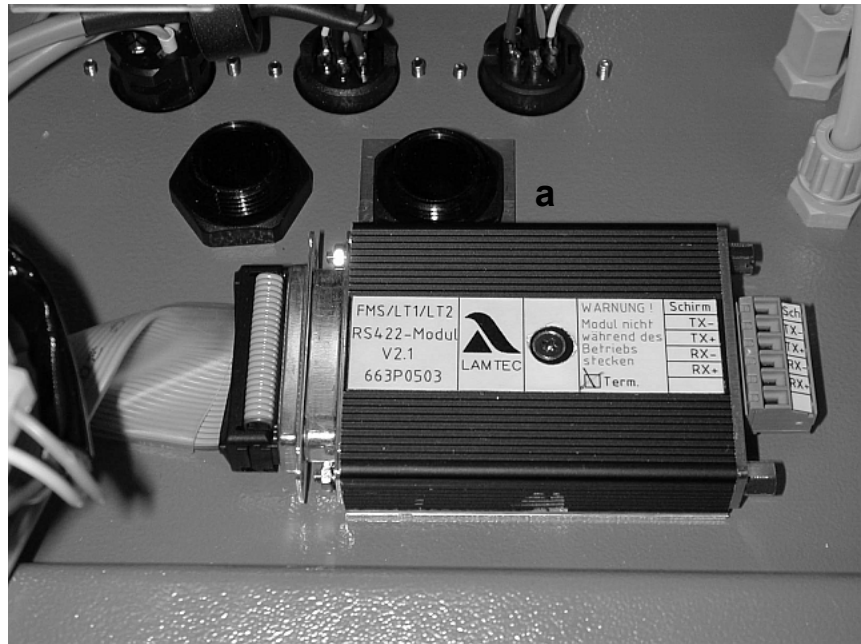
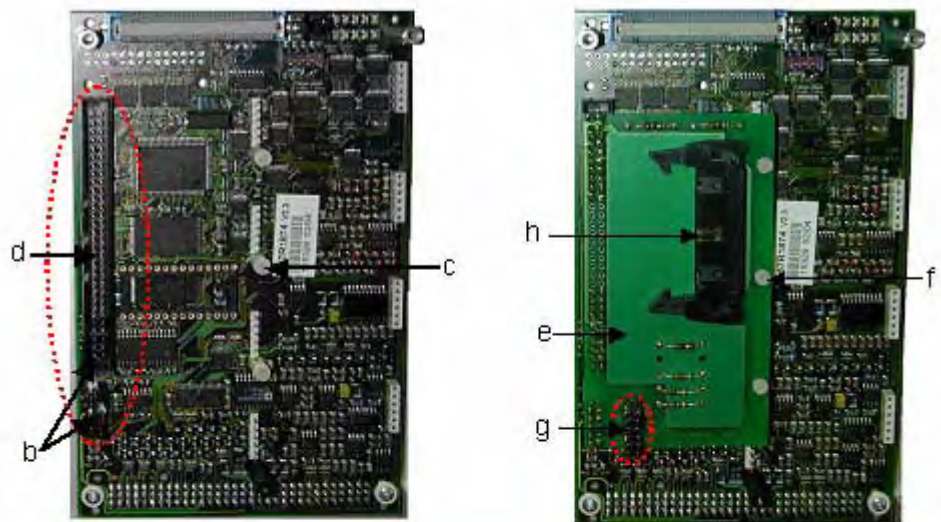

Fig. 10-8:
Fig. 10-9:
3. Secure the holding plate (3), with the RS422 module (1) attached, to the cable connection (a). See Fig. 10-8.
4. Plug the connection cable (5) into the RS422 module and route it under the front plate to the front side of the LAMBDA TRANSMITTER P. Then close the front plate.
6. Remove the jumpers (x 9) from the processor board (b). See Fig. 10-9.
8. Plug the adapter board (2) into the socket of the processor card (d) (e).
9. Screw the adapter board (2) back together with the spacer (f).